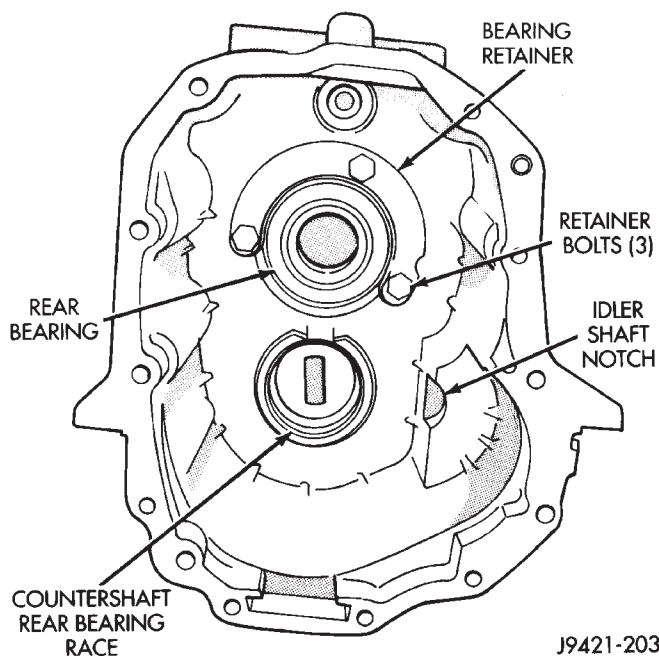

Fig. 100 Preparing Adapter Housing For Installation—4WD
(1) Install rear bearing in adapter housing. Use wood hammer handle or wood dowel to tap bearing into place.
(2) Position rear bearing retainer in adapter housing (Fig. 100).